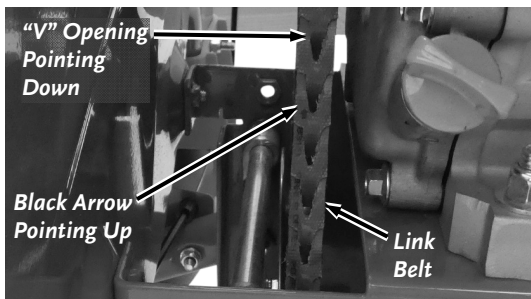

Figure 22
7. Look closely at the Belt from the left side of the machine to find a small black arrow (**Figure 22**). The black arrow shows the direction of rotation. The arrow would be pointing up when viewed from this left side of the machine. The new Belt will need to be installed in the same direction for the Belt to work properly.